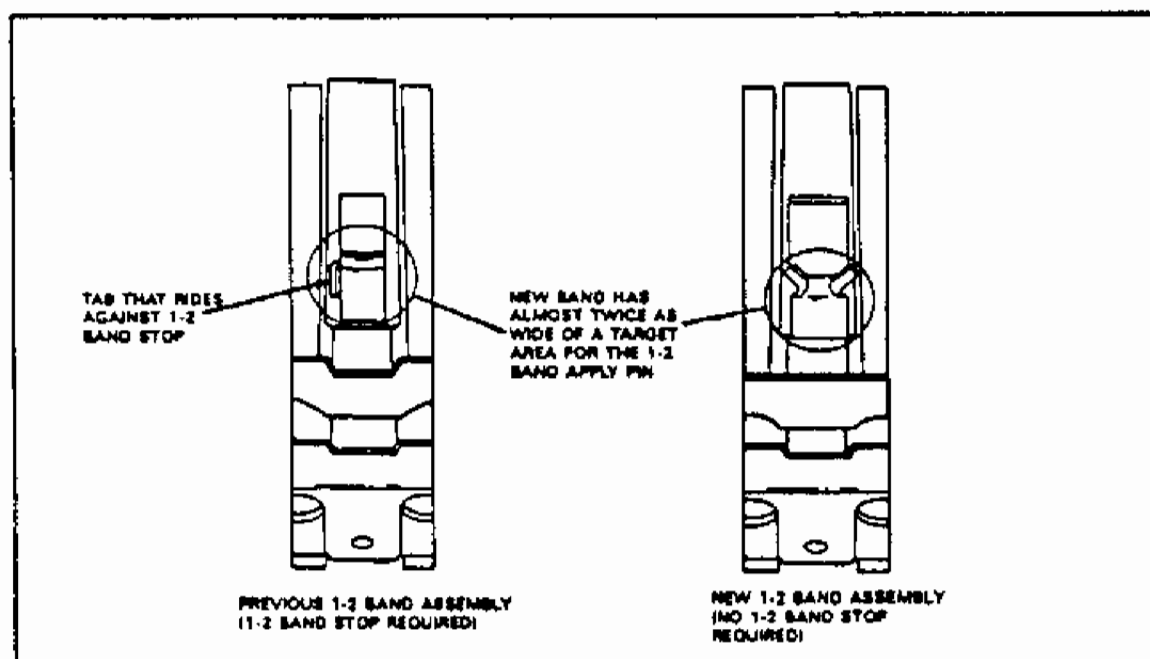

Figure 31
CHANGE: A new style 1-2 Band Assembly (See Figure 31) went into production beginning on January 16, 1990 (Julian Date 016) in all THM 440-T4 transaxles.
- (1) 1-2 BAND ASSEMBLY - The target area on the new 1-2 band, where the band apply pin engages, has been made wider and has "Wings" added to prevent the pin from ever missing the "Target" area (See Figure31).